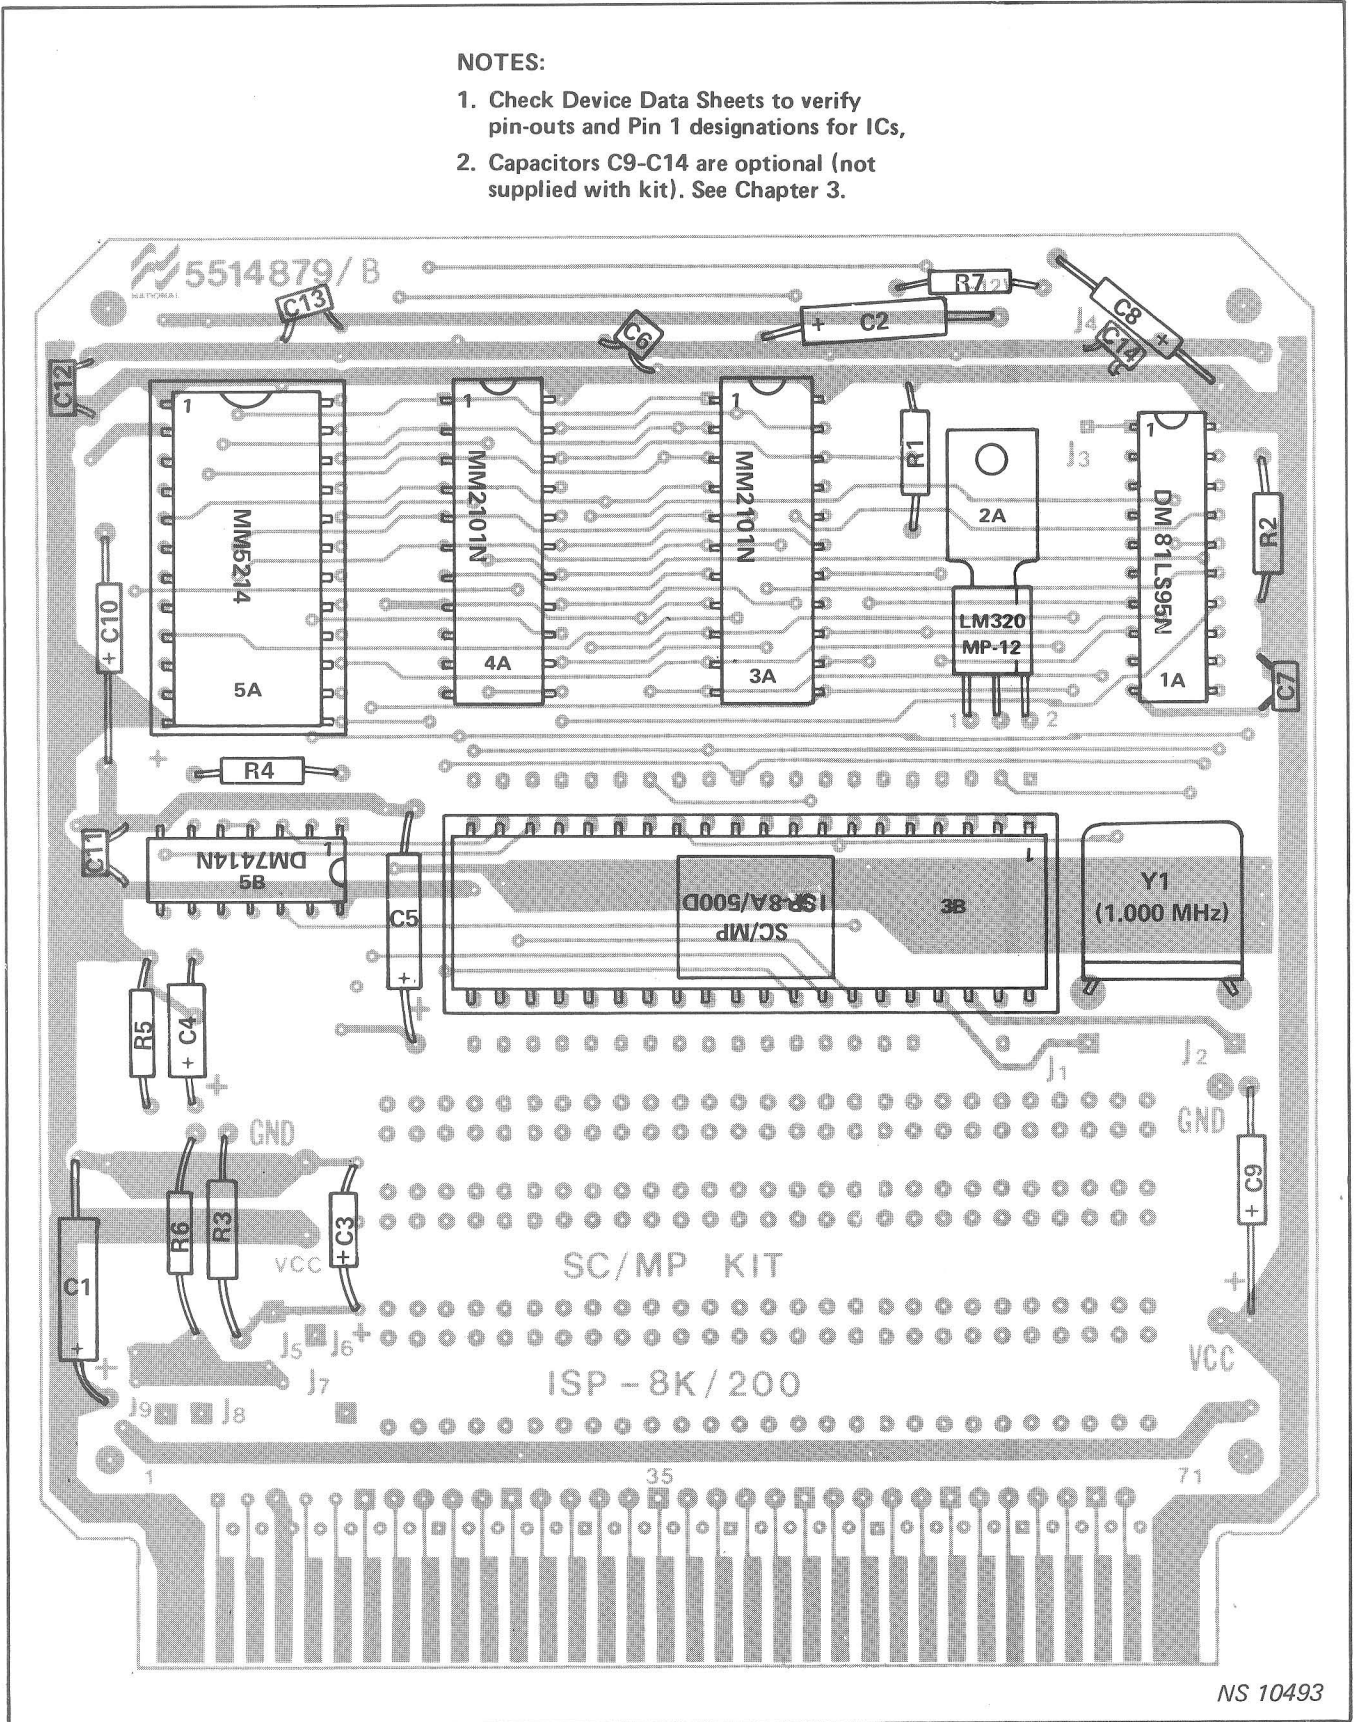

Figure 2-1. SC/MP Kit Component Locations
All of the SC/MP signals are available at "stake holes" on the card: the desired signals can be easily wired to the edge-connector pins, thus allowing complete flexibility in designating the connections to the card-edge. The stake holes are located along each side of the SC/MP chip next to the holes in which the chip itself is mounted and can be seen in figure 2-1. On the kit schematic (figure 2-2), the stake holes are indicated by the small square boxes located on the SC/MP signal lines adjacent to each SC/MP pin. The TTY interface signals, the Reset input signal, and the power inputs are already wired to the card-edge pins. The pin assignments for these signals are shown in figure 2-2.
Once the parts are counted and identified, they can be mounted on the board and soldered in place. It is recommended that components be installed in the following sequence:—first, all discrete parts (capacitors and resistors); next, all integrated circuits; and last, crystal Y1. (A piece of double-sided foam tape is supplied with the kit and should be placed between the printed circuit board and the case of the crystal to prevent accidental grounding of the crystal.) This order of assembly allows the board to be relatively flat during all soldering operations. The layout of the printed circuit board and mounted components are shown in figure 2-1. The figure provides explicit detail of where each component goes. To guarantee a successful job, the “DOs” and “DON’Ts” listed below must be followed to the letter. Figure 2-2 is a schematic diagram of the assembled kit.
- DO make certain that polarized capacitors are properly mounted. If a “+” does not appear on the case, the lead with the solder “blob” is positive. Where applicable, the “+” symbol is shown in figure 2-1.
- DO NOT solder an integrated circuit until the pin orientation matches that shown in figure 2-1—Pin #1 goes in the hole with the square pad. Pin #1 can be identified usually by a recessed dot adjacent to this particular pin; there is no identifying mark for other pins.
- DO NOT solder from the component side; once the leads are inserted in the proper holes (figure 2-1), turn the card over and fill the pad with molten solder. Then, neatly trim the excess lead length as flush as possible with the soldered connection. (Note: There is no need to trim the integrated circuit or socket leads.)
The values and electrical locations for these optional user-supplied capacitors (C9-C14) are shown on the kit schematic (figure 2-2). The corresponding physical locations are shown in figure 2-1.